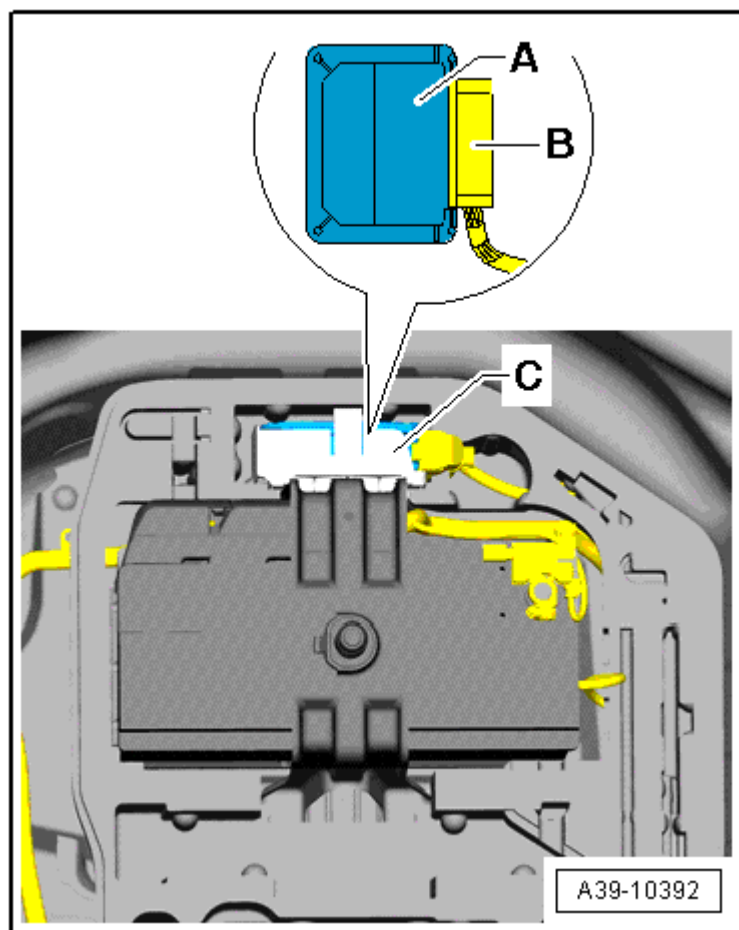

Fig. 33: All Wheel Drive (AWD) Control Module -J492- In Audi A4 Sedan, Audi A5 Coupe And Audi A5 Cabriolet
- Installed location on the A4 Sedan, A5 Coupe and A5 Cabriolet, refer to **Fig. 33**